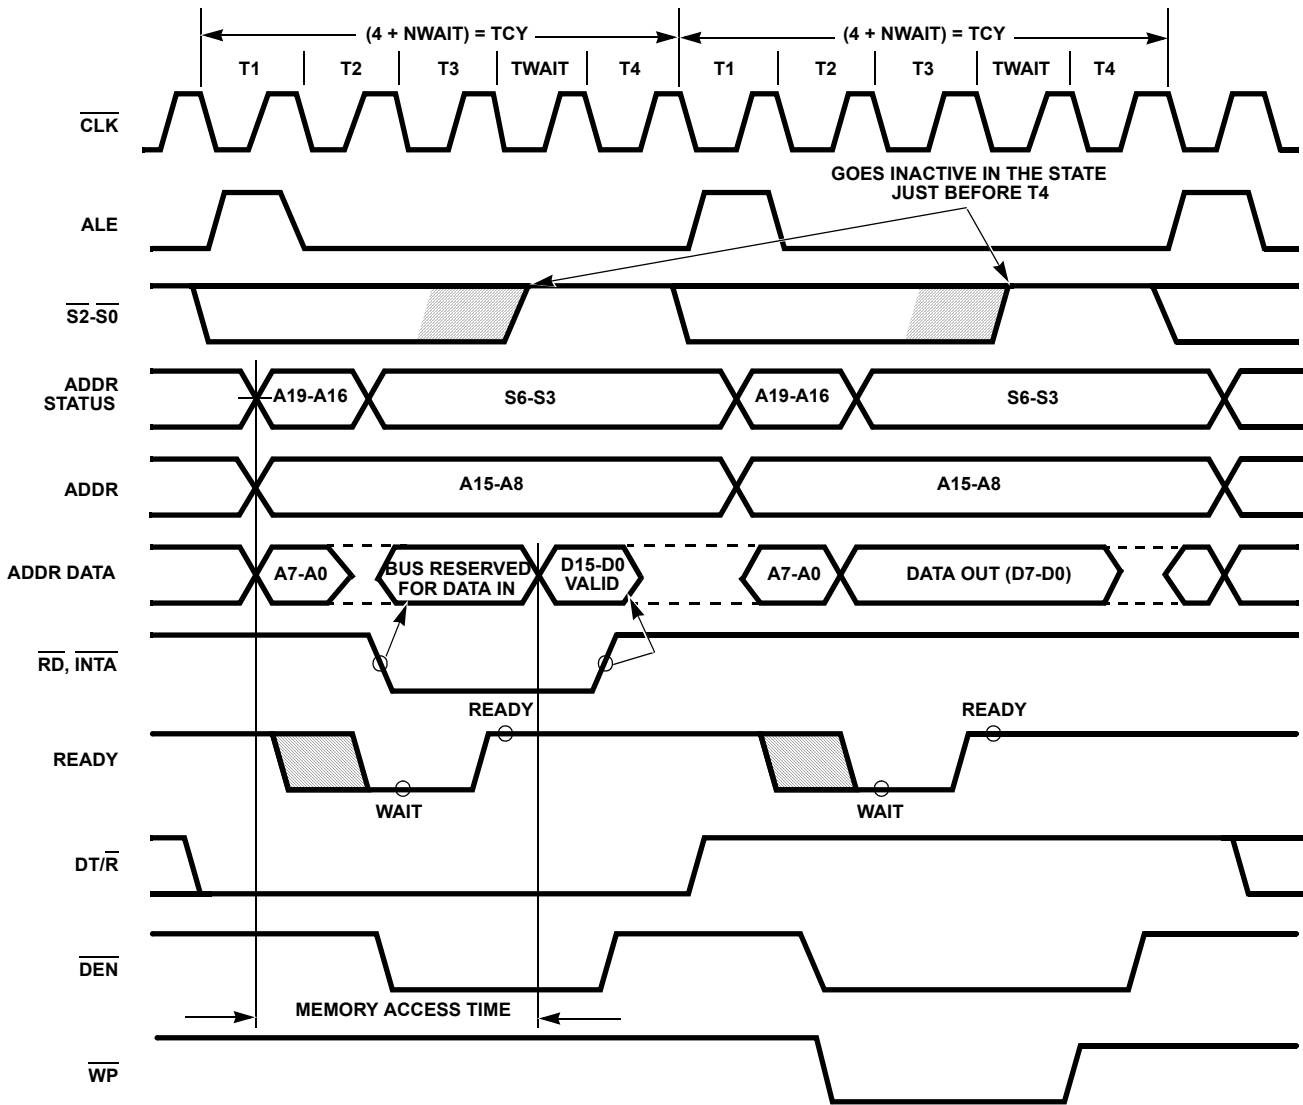

FIGURE 5. BASIC SYSTEM TIMING
Each processor bus cycle consists of at least four CLK cycles. These are referred to as T1, T2, T3, and T4, as shown in Figure 5 on page 12. The address is emitted from the processor during T1 and data transfer occurs on the bus during T3 and T4. T2 is used primarily for changing the direction of the bus during read operations. In the event that a "Not Ready" indication is given by the addressed device, "wait" states (TW) are inserted between T3 and T4. Each inserted "wait" state is of the same duration as a
The read cycle begins in T1 with the assertion of the address latch enable (ALE) signal (see Figure 5 on page 12). The trailing (low-going) edge of this signal is used to latch the address information, which is valid on the address data bus (AD0-AD7) at this time, into the 82C82/82C83 latch. Address lines A8 through A15 do not need to be latched because they remain valid throughout the bus cycle. From T1 to T4 the $\text{IO}/\overline{\text{M}}$ signal indicates a memory or I/O operation. At T2 the address is removed from the address data bus and the bus is held at the last valid logic state by internal bus-hold devices. The read control signal is also asserted at T2. The read ($\overline{\text{RD}}$) signal causes the addressed device to enable its data bus drivers to the local bus. Some time later, valid data will be available on the bus and the addressed device will drive the READY line HIGH. When the processor returns the read signal to a HIGH level, the addressed device will again three-state its bus drivers. If a transceiver (82C86/82C87) is required to buffer the local bus, signals $\text{DT}/\overline{\text{R}}$ and $\overline{\text{DEN}}$ are provided by the 80C88.